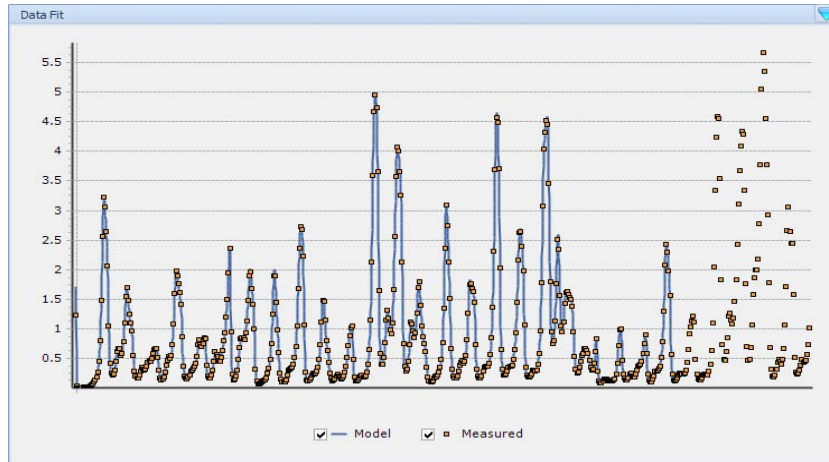

Figure 11.2 Data fit: measured data point vs. simulated values for nitrate concentration in the Anoxic tank
- The output of the PE experiment is shown in Figure 11.2 to Figure 11.4.